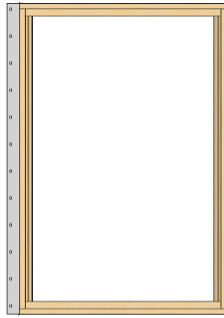

Fig. 1
- Lay the units down on a drop cloth or cardboard in the order they are to be mullled with exterior side down. (Fig. 1)